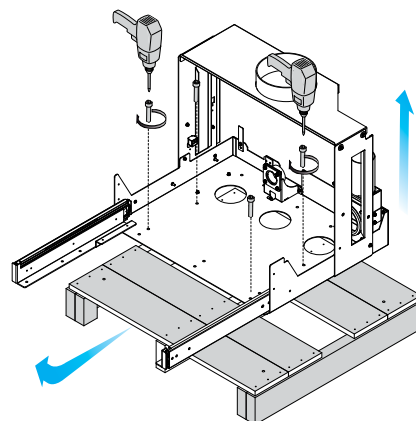

fig. 6.1.7
- 7) Unfasten the pallet fastening screws from the base and remove the pallet (fig. 6.1.7).